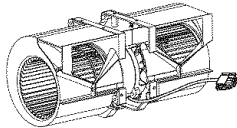

Figure 14
3. Reassemble the blower wire. See Figure 14.